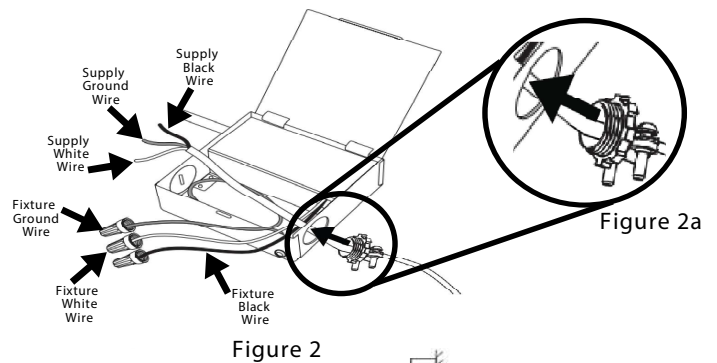

Figure 2
5. Connect the hot (black) wire to the black wire, the neutral (white) wire to the white wire and the ground (green/bare copper) wire to the green wire using the provided wire nuts shown in figure 2.